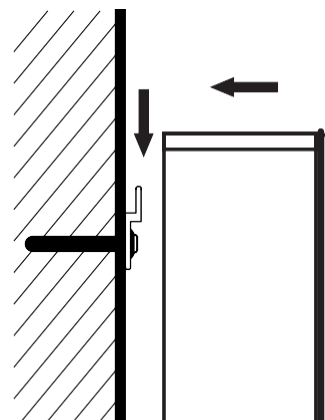
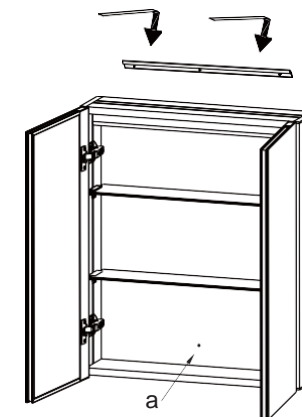

Fig. 3
Fig. 4
- 2.1 Attach the mirror cabinet to the bar as shown in Fig. 3, open the cabinet door, and mark on the wall with a pencil (Fig. 4) through the backplane hole (a).
- 2.3 Repeat the operation as shown in Fig. 3 and mount the mirror cabinet to the bar, make sure that the circuit on the wall is not energized and connect the three-core wire reserved on the wall to the three-core wire terminal block on the product (Fig. 6), and then tighten the screws on the backplane.